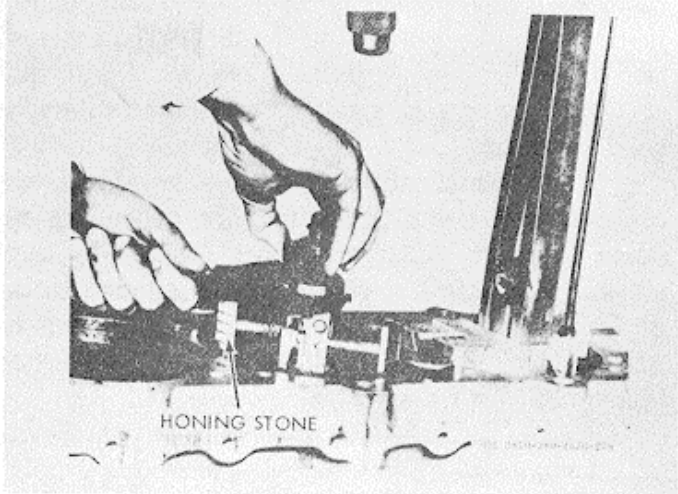

Figure 3-269. Initial honing stone expansion.
10. Insert hone assembly into top of cylinder liner. Raise center pinion assembly 1/4 in. and turn counterclockwise (left) to expand stones to approximate bore size, figure 3-269. Push center pinion down until its inside gear engages outside gear on hone body. Attach hone to quick coupler.